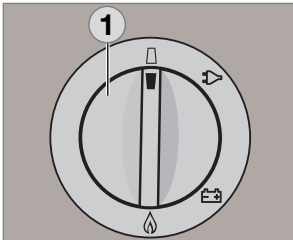

Fig. 33
- For battery igniter models, set the energy selector switch (1) to position "OFF". The appliance is switched off (Fig. 33).